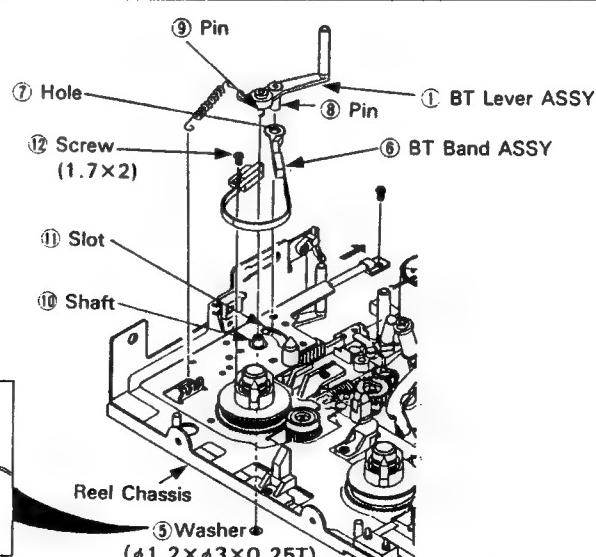

Fig. 2-12.
- 2) Remove screw ⑫ in Fig. 2-12 and release BT band ASSY ⑯ at this end.
- 3) Remove tension coil spring ② on BT lever ASSY ①.
- 4) Remove screw ③. Slide slightly the slide bearing ④ in the direction of the arrow and separate the reel chassis from the main chassis. (Flexible PCB can be left attached.)
- 5) Turn the reel chassis over and remove Washer ⑤ at the back of the chassis then remove BT lever ASSY ①.
(2) Reinstallation procedure (See Fig. 2-12.)